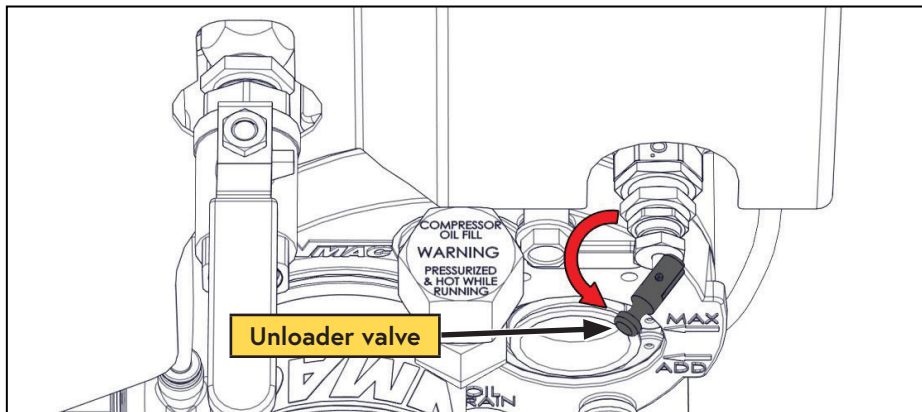

Figure 25 — Unloader valve
- Ensure the unloader valve remains actuated (under tension) (Figure 25).